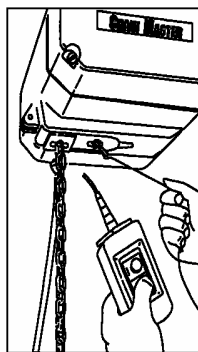

Figure 12 (step 3)
3. Allow chain to be fed in using inching control on push button (Figure 12).